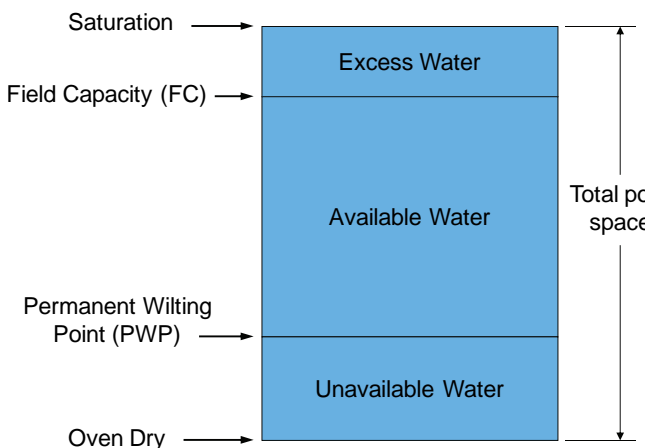

Figure 6. The various components of the soil water content.
Water is held in the empty spaces between soil particles. When these empty spaces are completely filled, the soil is said to be saturated (Figure 6). Excess water will drain out over time until a point where the soil can hold a certain amount of water indefinitely against the downward pull of gravity. This soil water content is called **field capacity (FC)** and in this application is measured in inches of water per foot of soil depth. The excess water that drains will move down to lower soil layers. Applying more water than a soil can retain in the plant's managed root zone results in water loss to **deep percolation (DP)** or "deep water loss". Water loss to deep percolation wastes water, pumping energy, and vital plant nutrients that are held in the soil water solution.